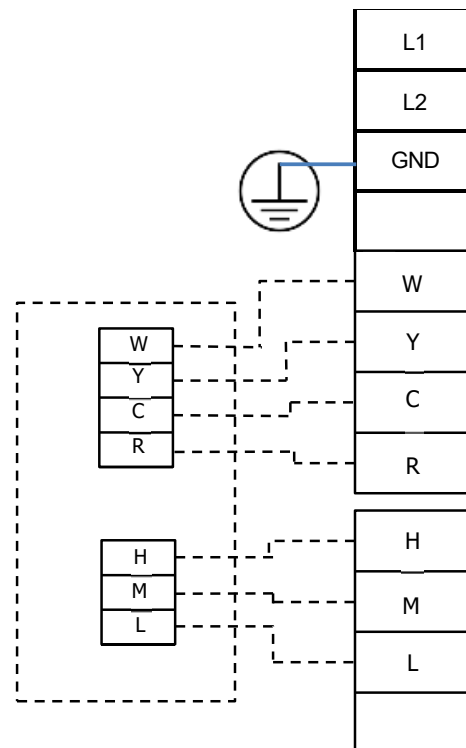

Figure 19
Screw terminal blocks have been provided to connect the high voltage wires as well as the thermostat connections. See figure 19
- (9) Any standard 24vac thermostat can be used with this fan coil.
- (10) The unit can run three or single speed fan operations.
- (11) Refer to wiring diagram for the wire connections. See figure 19 and 20
- (12) Secure the cables with a cable clamp after connecting them to the terminal block.
- (13) Power cabling can be executed by authorized electricians only.